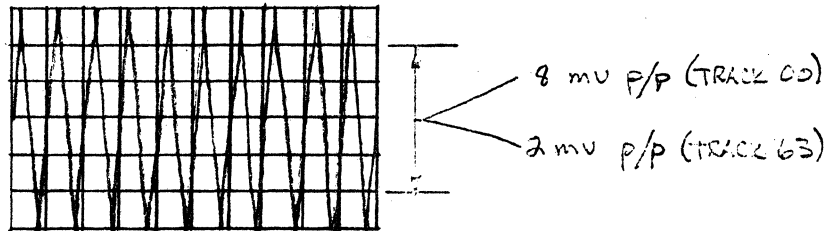

Figure 7-24. Read/Write Head Check No. 2
- o. Connect oscilloscope in accordance with information contained in Figure 7-24.
- r. Minimum peak-to-peak amplitude for observed signal on oscilloscope is 2mv (Figure 7-24).